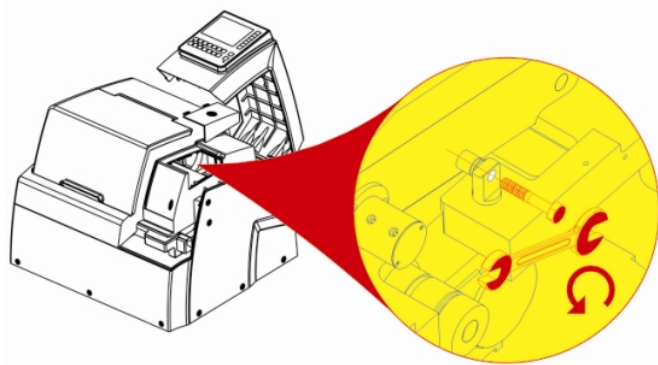

Figure 3
- C. The finished one as Figure 3 as above.
A. to make the point on the cup match with the point on the chuck axis, as the figure 3.